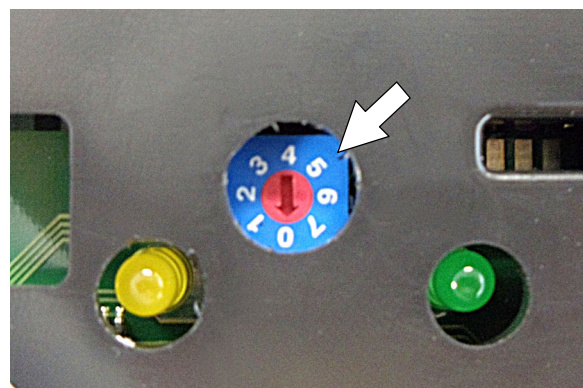

FIG. 114
- Using a small standard screwdriver, turn the dial to the appropriate battery type according to the following chart (Figure 114).